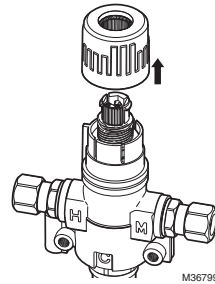

Fig. 3. Remove the handwheel.
2. Remove the cap by pulling it off. See Fig. 3.